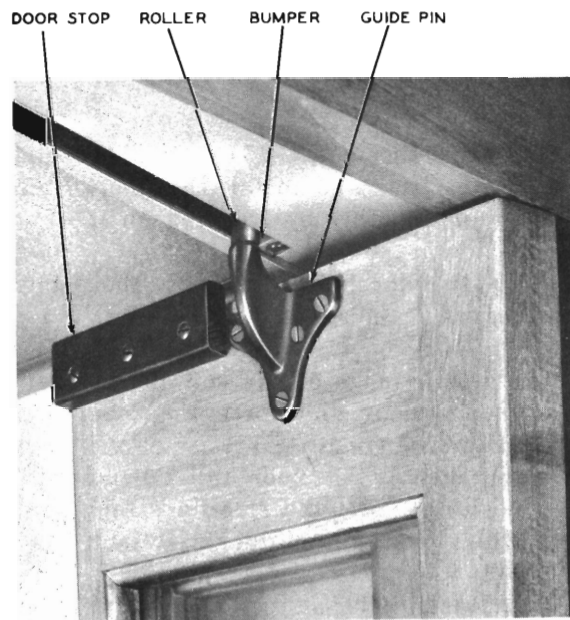

Fig. 1 — Upper Door Assembly
- When the door is equipped with a rectangular guide pin block (P-370165), remove the door guide pin. Replace the rectangular guide block with a guide pin roller P-12A332 (see Fig. 1). Relocate the felt bumper (P-12A336) 3/8 inch nearer the center of the door track. Where a guide pin requires replacement, use the P-16A400 door guide pin.